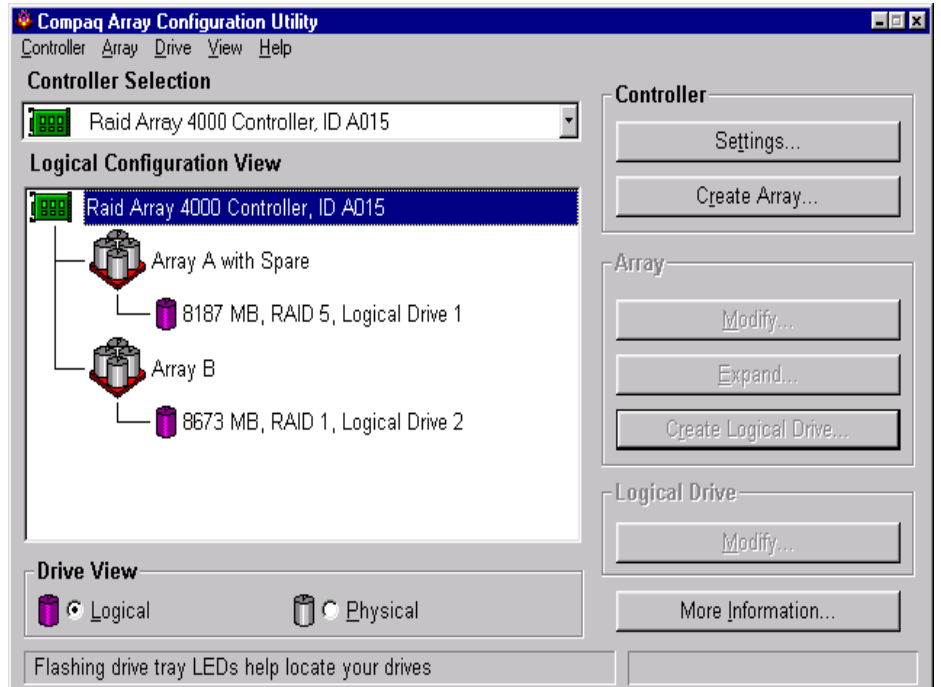

Figure 6-8. Example array - Configuration View screen with two Arrays
10. The Configuration View screen should look like Figure 6-8.